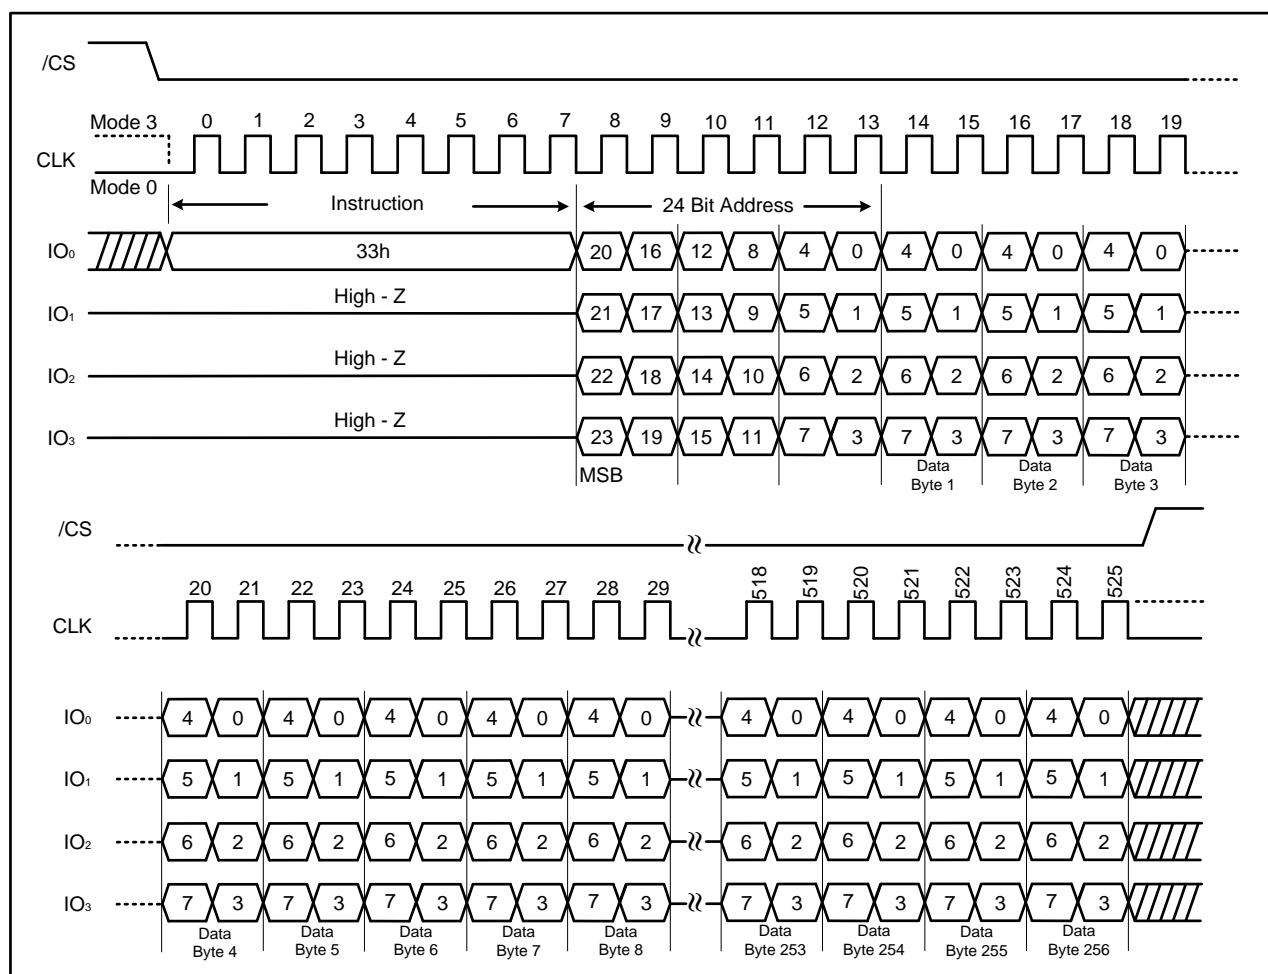

Figure 32. Quad Page Program Instruction (SPI Mode only)
The Quad Page Program (33h) instruction is similar to the Quad Input Page Program (32h) instruction except that address and data bits are both input and output through four pins IO₀, IO₁, IO₂ and IO₃. The Quad Page Program can improve performance for PROM Programmer and applications that have slow clock speeds <5MHz. Systems with faster clock speed will not realize much benefit for the Quad Page Program instruction since the inherent page program time is much greater than the time it take to clock-in the data. To use Quad Page Program the Quad Enable (QE) bit in Status Register-2 must be set to 1. The Quad Page Program instruction sequence is shown in Figure 32.